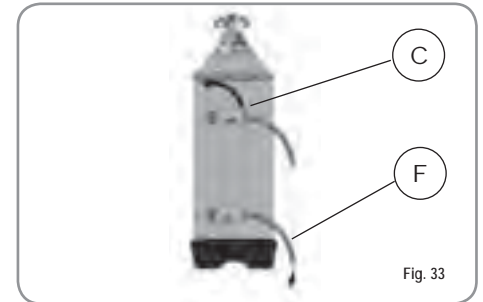

Fig. 33
- 2) Put the cap back on and reposition lever C moving it towards the left (Fig. 33) and allowing tube F to discharge the salty water until it has been eliminated and the water becomes fresh again (about half an hour).